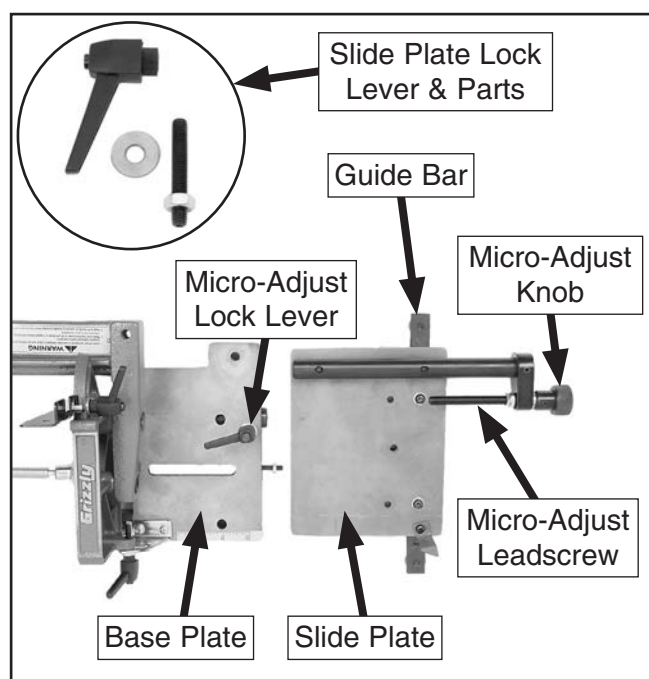

Figure 10. Slide and base plates separated.
1. Remove slide plate lock lever and flat washer, then un-thread the M8-1.25 x 55 set screw the lock lever was attached to (see **Figure 10**).
2. Loosen micro-adjust lock lever, then rotate micro-adjust knob counterclockwise to force slide plate to move and separate from micro-adjust leadscrew, as shown in **Figure 10**.